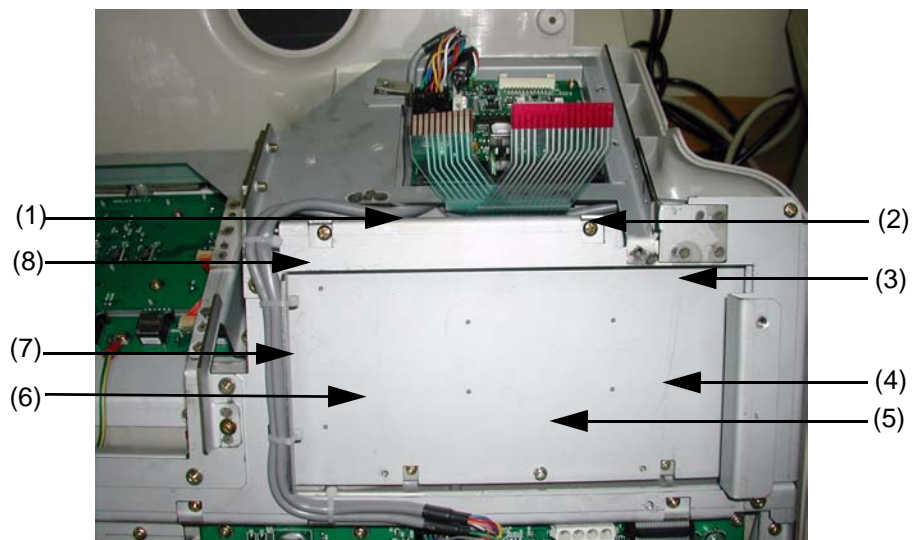

Figure 8-33 Unscrew 8 screws
5.) Unscrew eight (8) screws (1-8) to remove the A/N keyboard Assy. Refer to Figure 8-33.